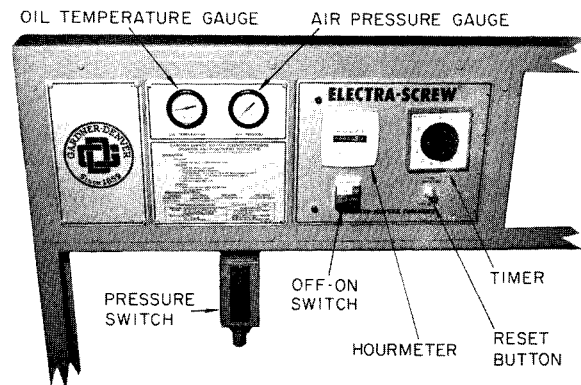
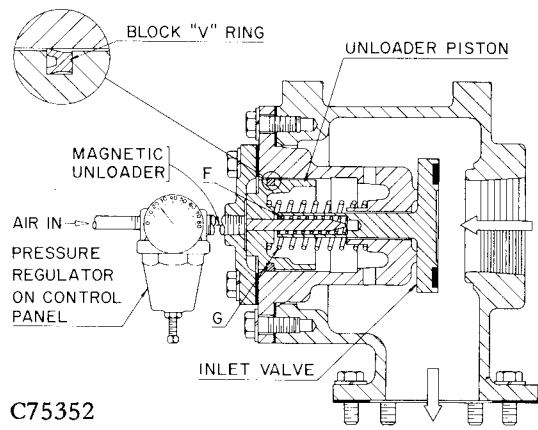

FIGURE 11-4. — INSTRUMENT PANEL TIMED DUOMATIC CONTROL
FIGURE 12-4. – INLET VALVE FOR DUOMATIC CONTROL
The Duomatic Control system offers three modes of operation controlled by the adjustable timer on the instrument panel (Figure 11-4).
The air pressure switch located under the unit control panel (Figure 11-4) controls the operating pressure of the system by opening and closing the inlet valve (Figure 12-4) as in Constant Speed and Timed Duomatic operation, or by starting and stopping the unit as in Automatic Start-Stop operation. The switch is piped from the final discharge line to the magnetic unloader valve and connected to the electrical circuit in the control box.
**Inlet Valve** (Figure 12-4) – The piston-actuated inlet valve controls the compressor inlet and operates on air pressure from the control circuit. The valve is closed when preset full pressure is on the system, and opens when the pressure in the system falls to a preset minimum. The inlet valve contains piston spring “G” which returns piston and allows the inlet valve to open when the pressure is removed, and valve spring “F” which returns the valve to closed position on shutdown of the compressor to prevent oil blowback from